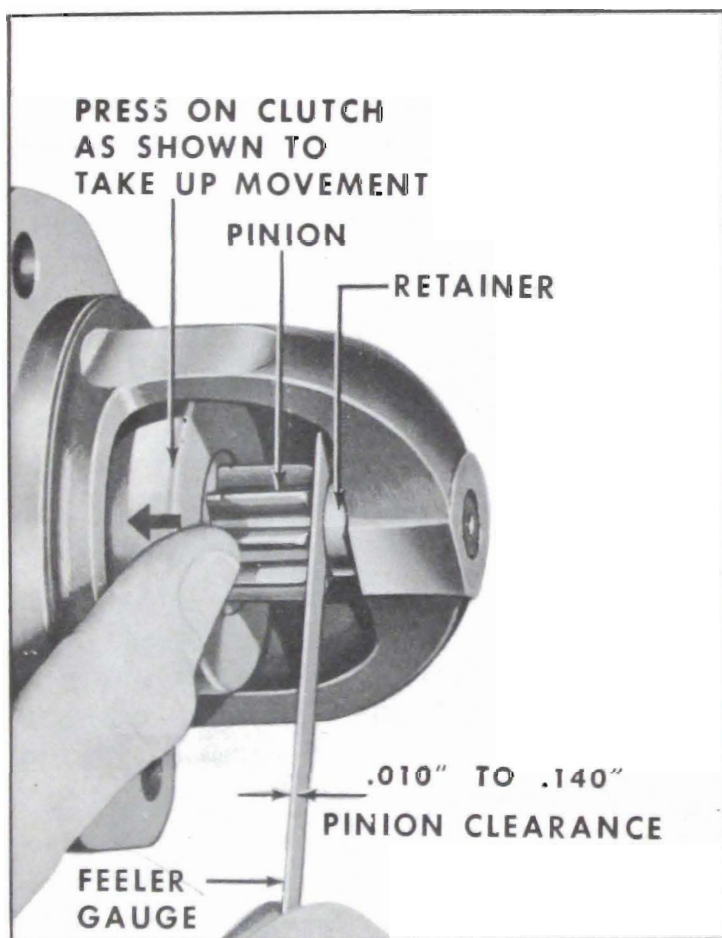

Figure 10-31—Checking Pinion Clearance
2. After energizing the solenoid, push the pinion away from the stop retainer as far as possible and use feeler gauge to check clearance between pinion and retainer. See figure 10-31.